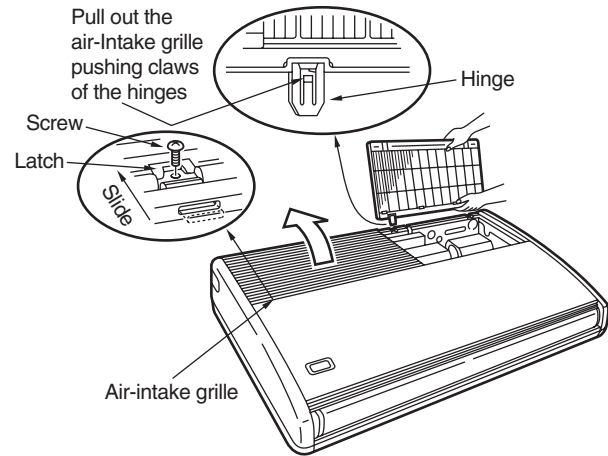
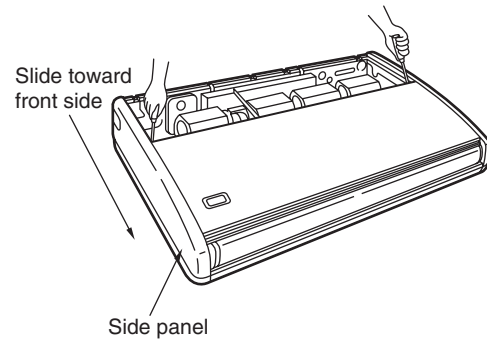

Fig. 1-88
Fig. 1-89
- (5) Before suspending the indoor unit, remove the 2 screws on the latch of the air-intake grilles, open the grilles, and remove them by pushing the claws of the hinges as shown in Fig. 1-88. Then remove both side panels sliding them along the unit toward the front after removing the two screws which fix them. (Fig. 1-89)